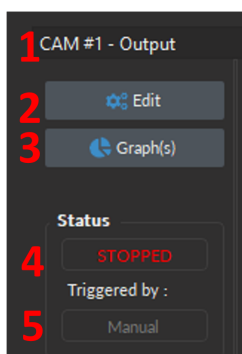
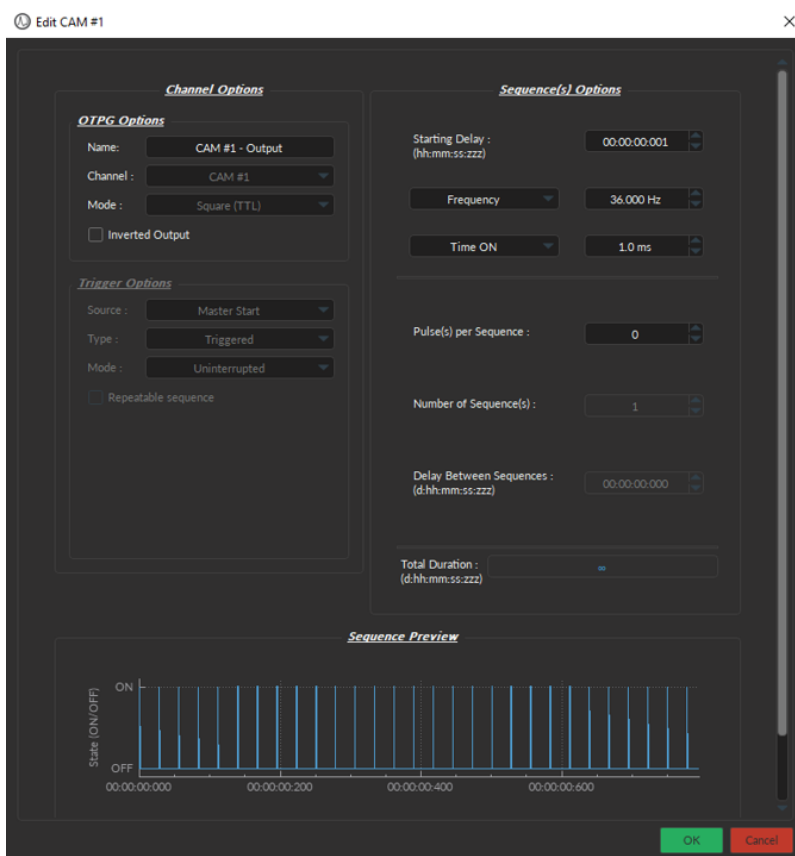
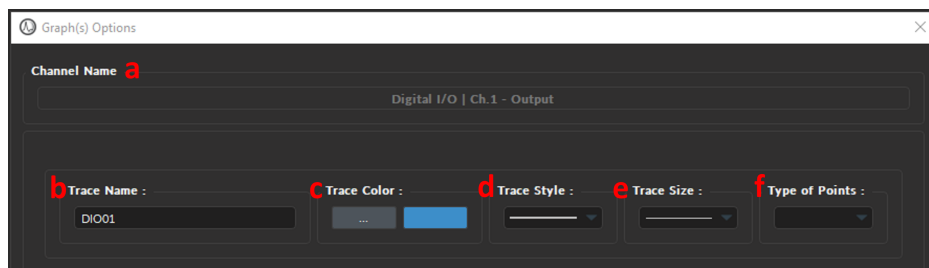
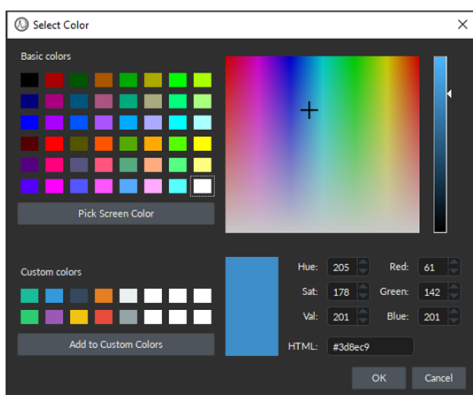

Figure 13.34: Digital I/O View, Control box
Figure 13.35: Edit Preset CAM or EXC configuration
Figure 13.36: Graph(s) Options Window
Figure 13.37: Select Color Window
The following elements are contained within the **Control Box** of every Digital channel (Fig. 13.34):
1. The **Channel name** (Fig. 13.34, 1) is located on the upper left of the **Control box**, identifying the type of channel and its number, corresponding to that on the *BFPD*.
2. The **Edit** button (Fig. 13.34, 2) opens the **Channel Configuration** window, where the preset digital outputs can be modified (Fig. 13.35). For details on individual parameters, see Section 13.4.4.
- The **Graph(s)** (Fig. 13.34, 3) button opens the **Graph Options** window (Fig. 13.36) corresponding to the channel whose graph will be modified. This window allows users to configure the visualization and naming parameters of each channel graph. If a channel has multiple traces, parameters to configure each trace individually will appear automatically on different rows. **Graph(s) Options** parameters are as follows:
- The **Channel Name** (Fig. 13.36, 1) is the default name assigned by the software, which includes the type of channel (Digital / Analog In or Out) and the location of said channel on the console (BNC connector 1-4).
- The **Trace Name** text-box (Fig. 13.36, 2) allows users to specify a name for the trace, instead of the default name generated by the software.
- The **Trace Color** button (...) (Fig. 13.36, 3) opens the **Color Select** window (Fig. 13.37), which allows the selection of a trace color from a wide palette. The **Pick screen color** in this window allows the selection of any color displayed on the computer screen.
- The **Trace style** drop-down list (Fig. 13.36, 4) allows the selection of the type of trace, from full to dashed lines. If the style chosen is empty, the trace will not be displayed.
- The **Trace size** drop-down list (Fig. 13.36, 5) allows the selection of the trace size. Using a bigger **Trace size** than the default may result in slower display and performance degradation.
- The **Type of points** drop-down list (Fig. 13.36, 6) selects the style data point used to demark instantaneous values on the graph. Using different point types than the default (none) may result in slower display and performance degradation.
- The **Status** bar (Fig. 13.34, 4) displays acquisition status. **STOPPED** is displayed when the acquisition is inactive, **STARTED** when acquisition is active, and **WAITING...** when the **Master Trigger** is set to *Triggered* (see Section 13.3.2.1, no. 3).
- The **Triggered by:** (Fig. 13.34, 5) text-box displays the source of the trigger for that channel, which can either be Manual (i.e. selecting the **Record/Live** button) or a specific channel that provides external trigger signal.